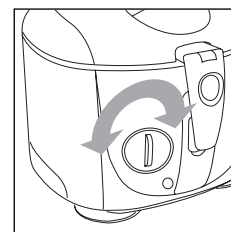

fig. 2
- Set the thermostat knob to the desired temperature (fig. 2), the indicator light will switch on. When the set temperature is reached, the indicator light will switch off.